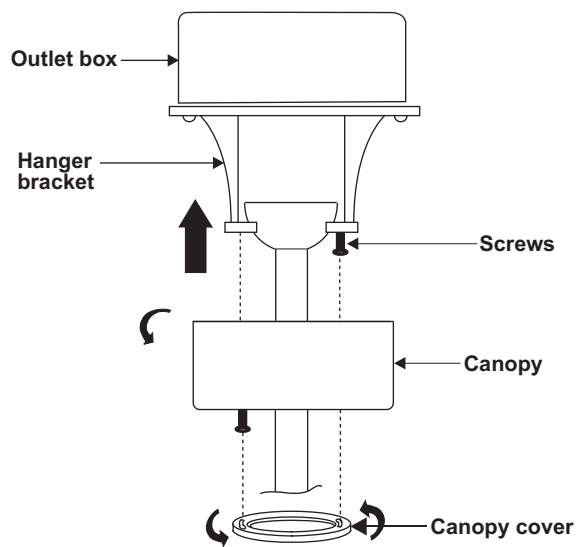

Figure 16
2. Slide the canopy up to hanger bracket and place the key hole on the canopy over the screw on the hanger bracket, turn canopy until it locks in place at the narrow section of the key holes. (Fig. 16)
Install one 23A/12V battery (included). To prevent damage to transmitter, remove the battery if not used for long periods of time (Fig. 16 & 17)